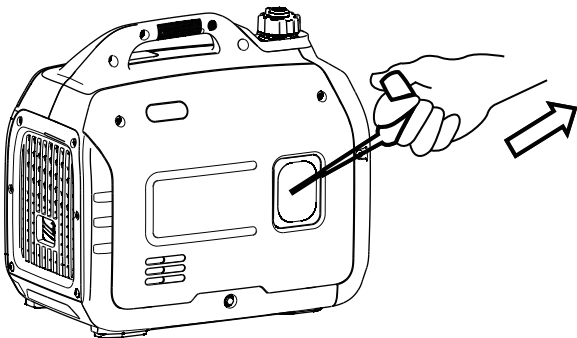

Figure 7: Pull the Recoil Handle out from Inverter
3. Firmly grasp and pull the recoil handle slowly until you feel increased resistance. At this point, apply a rapid pull while pulling out from the inverter (see Figure 7).